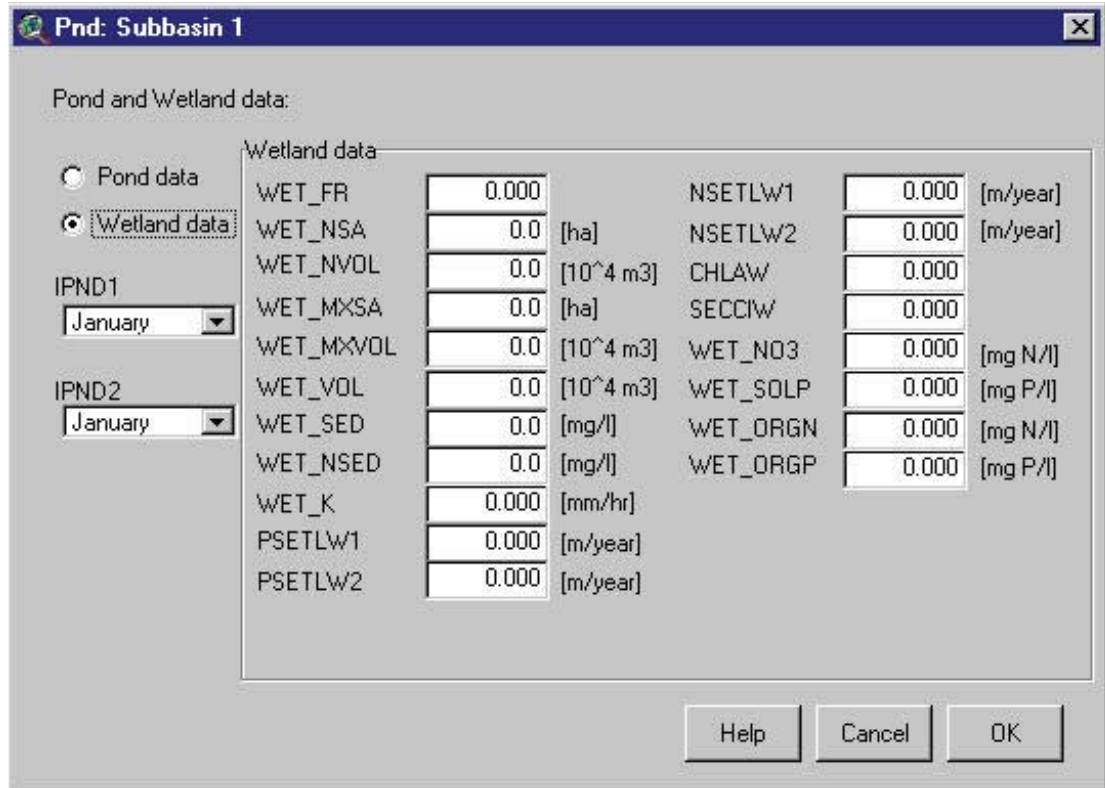

Figure 12.85
2. When the dialog box appears, the subbasin pond parameters are shown. To display the subbasin wetland parameters (Figure 12.85), click the radio button